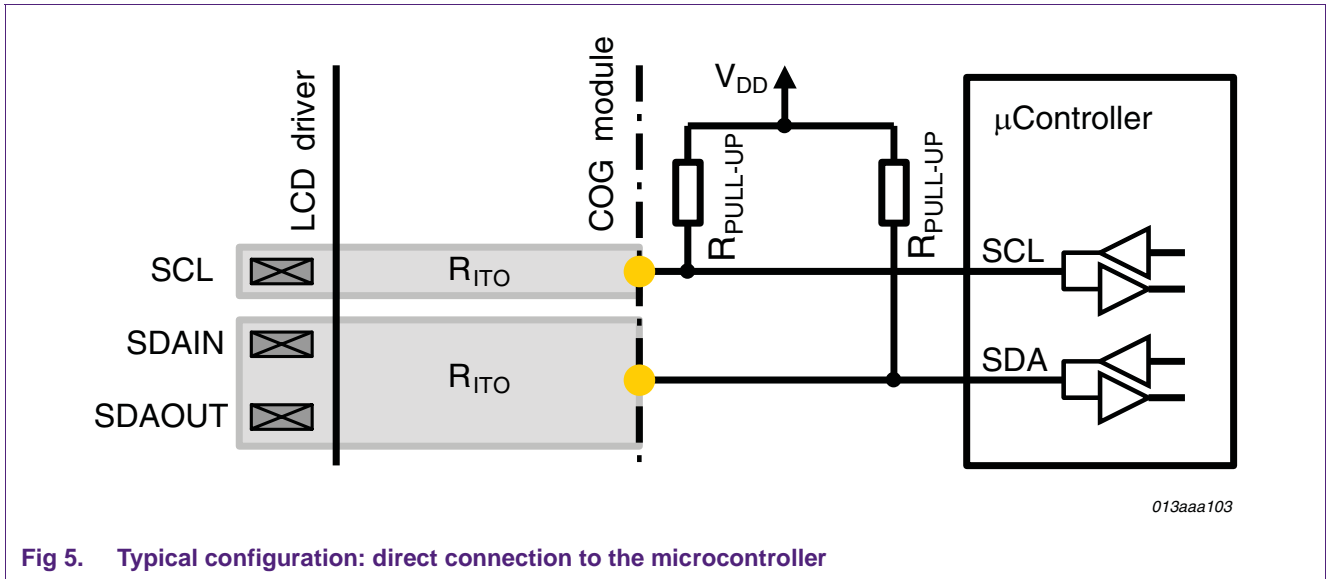

Fig 5. Typical configuration: direct connection to the microcontroller
- The I2C protocol is fully implemented in the system, i.e. the master-transmitter device (host microcontroller) expects an ACKnowledge after each byte. In this case connect LCD driver's SDAIN and SDAOUT pins on glass with a single ITO trace, taking care to minimize track and connection resistance. Choose a pull-up resistor value that will ensure that the  $V_{IL}$  spec of the other device(s) on the I2C-bus is always met, under all conditions and including all tolerances. Note that the value of  $R_{PULL-UP}$  directly affects the SDA signal rise time. Take care that  $R_{PULL-UP}$  is not too high that the maximum rise time limit is violated. A simple rule in this case is to make sure that  $(2 \times C_{SDA} \times R_{PULL-UP}) < t_R(max)$ , where  $C_{SDA}$  is the capacitance of the SDA bus rail, including the associated parasitic pad capacitances of all the devices connected to the I2C-bus and  $t_R(max)$  is the specified maximum rise time (see Figure 5).